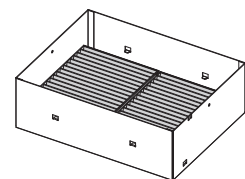

Fig. 3
- When the two air filter units are attached (Fig. 3), proceed to “Attaching the long life filter cover” (➔ page 250) next.